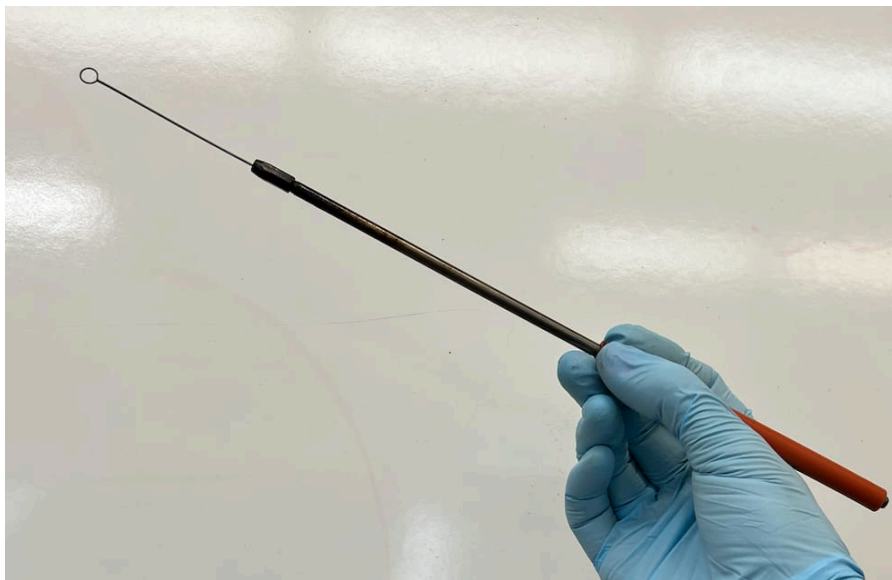

Figure 5.4
3. Sterilize your inoculating loop. Hold it in your dominant hand as you would a pencil (Figure 5.4).